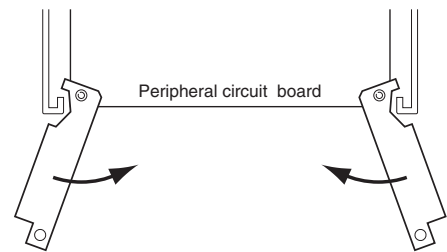

Figure 3.4.2 Installing Peripheral Circuit Board
(1) Unfasten the screws located on the left and right sides of the front panel of the S5U1C63000H6 by turning them counterclockwise then remove the front panel.
(2) Insert the peripheral circuit board into the slot and push it using the jig attached with the S5U1C63000H6 as shown in Figure 3.4.2.